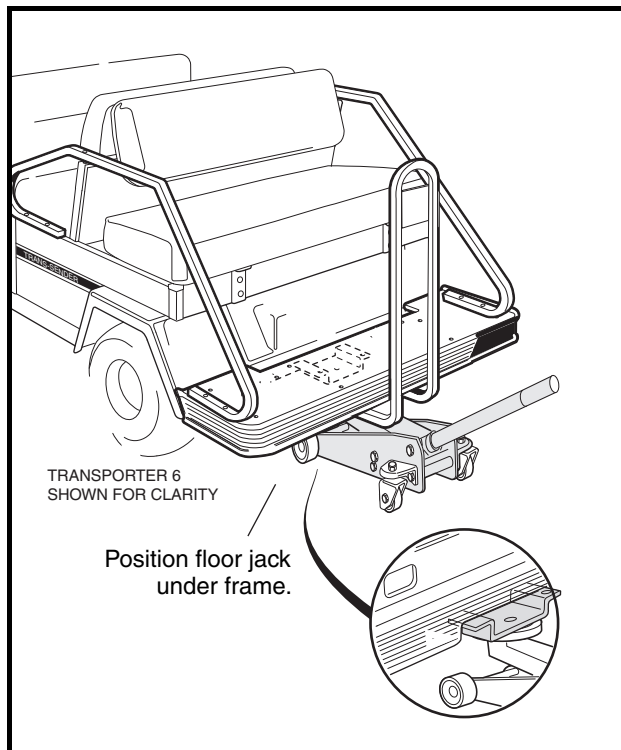

Figure 9-2 Lift Vehicle
2. Place chocks at the front wheels and lift rear of vehicle with a chain hoist or floor jack (**Figure 9-2, Page 9-2**). Position jack stands under the frame crossmember between the rear leaf spring front frame mount and the side stringer, just forward of each rear wheel. Lower the vehicle to let the jack stands support the vehicle. See General Warning, Section 1, Page 1-1.